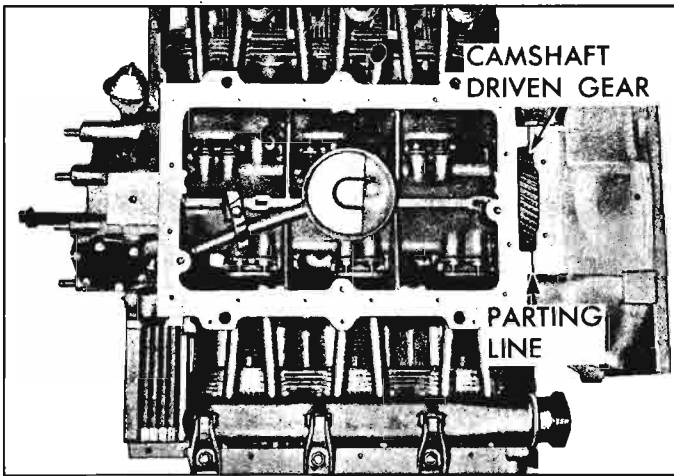

Fig. 6A-109—Oil Pan Rails
52. Invert engine on stand and install oil pan with a new gasket. Check parting line to see if flywheel housing gasket is far enough up for good sealing (fig. 6A-109). Torque oil pan bolts 40 to 60 ft. lbs.
53. Attach a chain and shackle from Tool J-4536-A (lifting kit) to lifting adapter (fig. 6A-34) and at the flywheel housing lifting eye. Remove bolts at flywheel housing adapter Tool J-8280.
55. Install fuel pump push rod return spring (large diameter down) into oil filter and generator adapter. Install fuel pump push rod well lubricated with oil in adapter and install fuel pump with a new "O" ring seal. Turn set screw finding hole in fuel pump and tighten 9 to 15 ft. lbs. Tighten locknut 9 to 15 ft. lbs. torque (fig. 6A-35).
56. Connect fuel lines to carburetors and fuel pump. Install engine front shield and support strap (fig. 6A-11), connect vacuum balance tube to both carburetors.